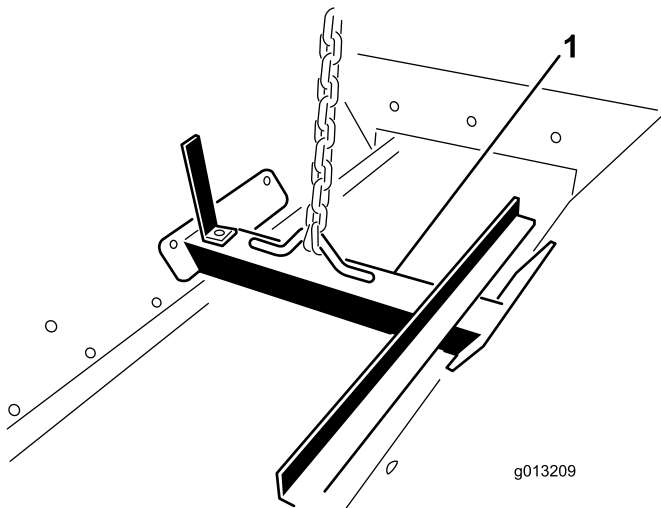

Figure 13
- Attach a lifting device to the lifting bracket bolted inside the hopper assembly (Figure 13).